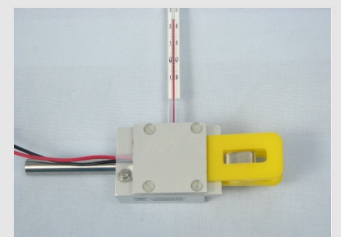

Figure 6
5. Insert one of the two thermometers into this opening and make sure that the measuring tip of the thermometer touches the aluminium block (Fig. 6).